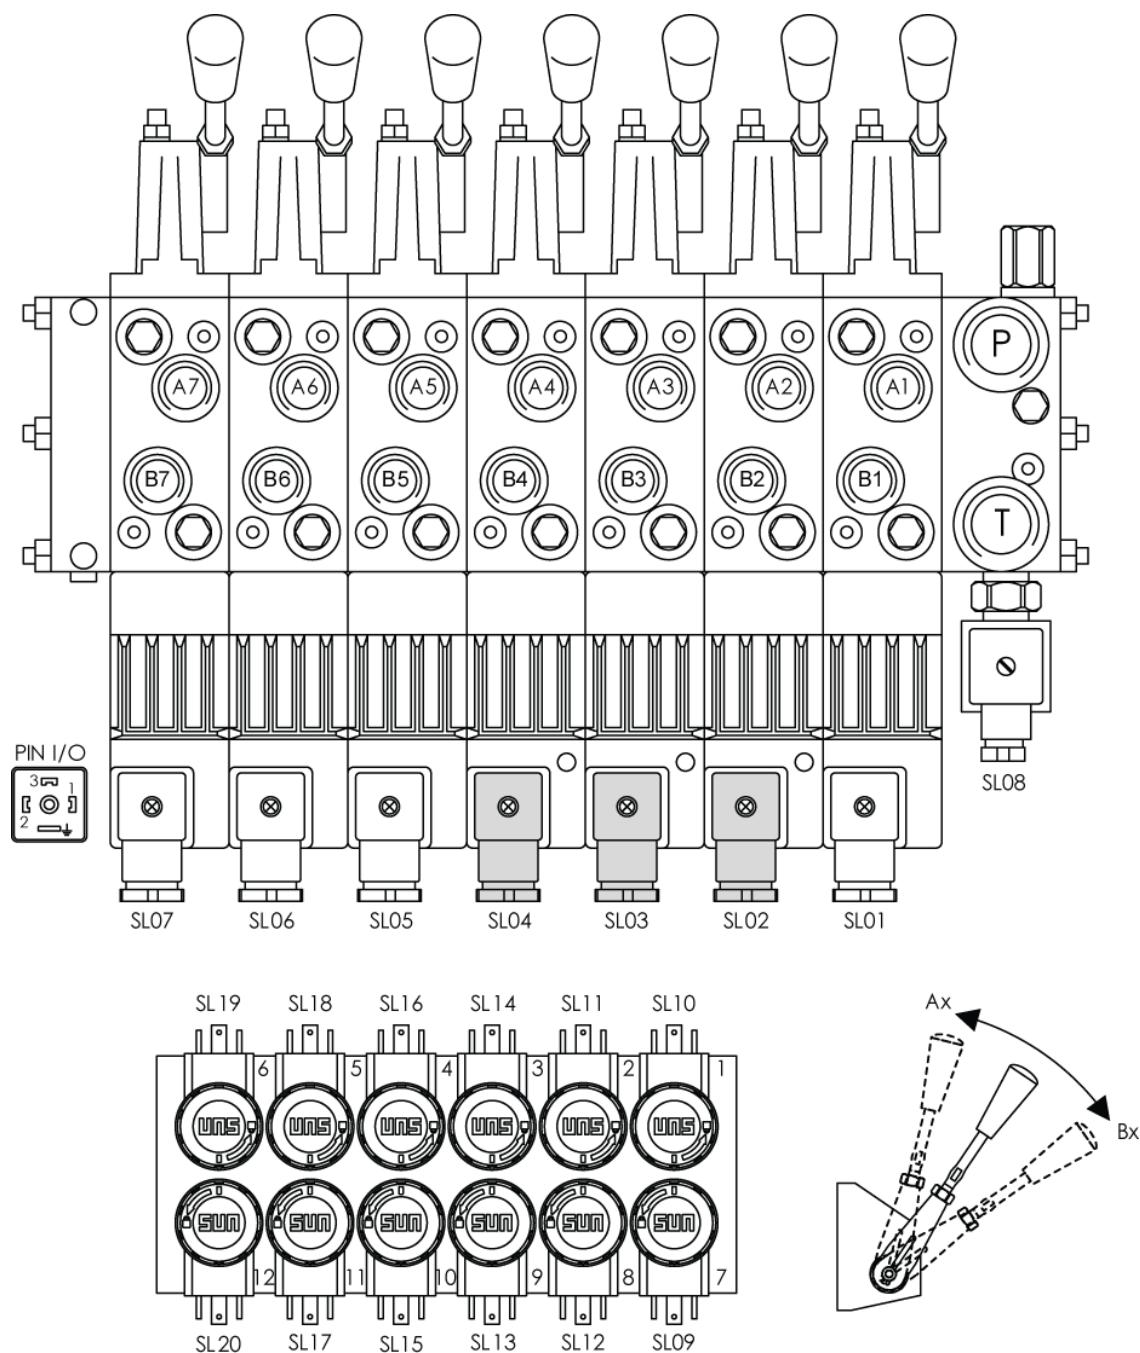

Figure 15 – Main valve block (located under central maintenance hatch cover).
- Turn the knob on the relevant valve (SL9 to SL19) in the direction of the arrow (see Figure 15). A decal indicating the function of each valve is located on the underside of the maintenance hatch cover.